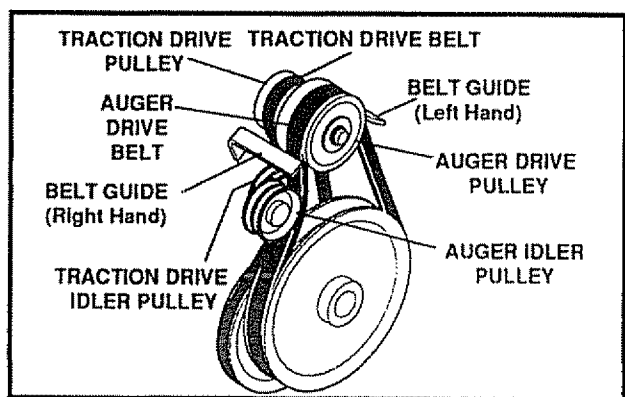

FIG. 28
- Loosen the belt guides (See Fig. 28) and pull away from the engine drive pulley
- Loosen the nut on the auger idler pulley (See Fig. 28) and pull idler pulley away from the belt
### TRACTION DRIVE BELT (See Fig. 28)